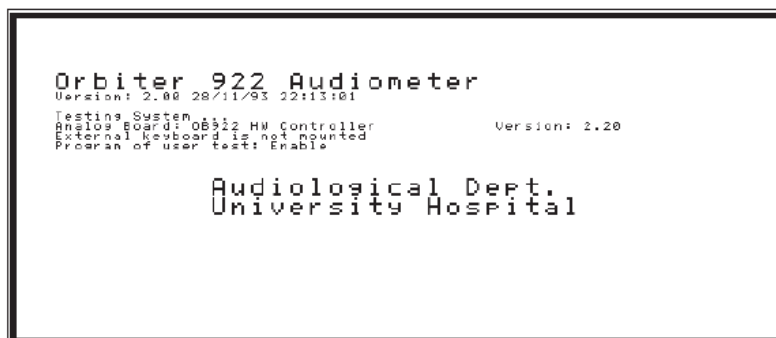

Figure 4-1 THE POWER-ON SCREEN.
3. The screen illuminates and displays "Boot Program" for a couple of seconds, and then a second screen displays the following (see Fig. 4.1 below): which version of the Orbiter software is installed, the date and time of the software release, which EPROM version is installed on the analog PCB, whether or not an external keyboard is connected, and whether or not programming of User Tests has been enabled. At the same time the audiometer runs an automatic self-test and displays the version number of the hardware controller and whether or not a PC keyboard or CD Player is connected.
4. In Figure 4-1, the two lines which display “Audiological Dept., University Hospital” may be configured by your local distributor by means of ORBICON™ to read your own institution's name and address.